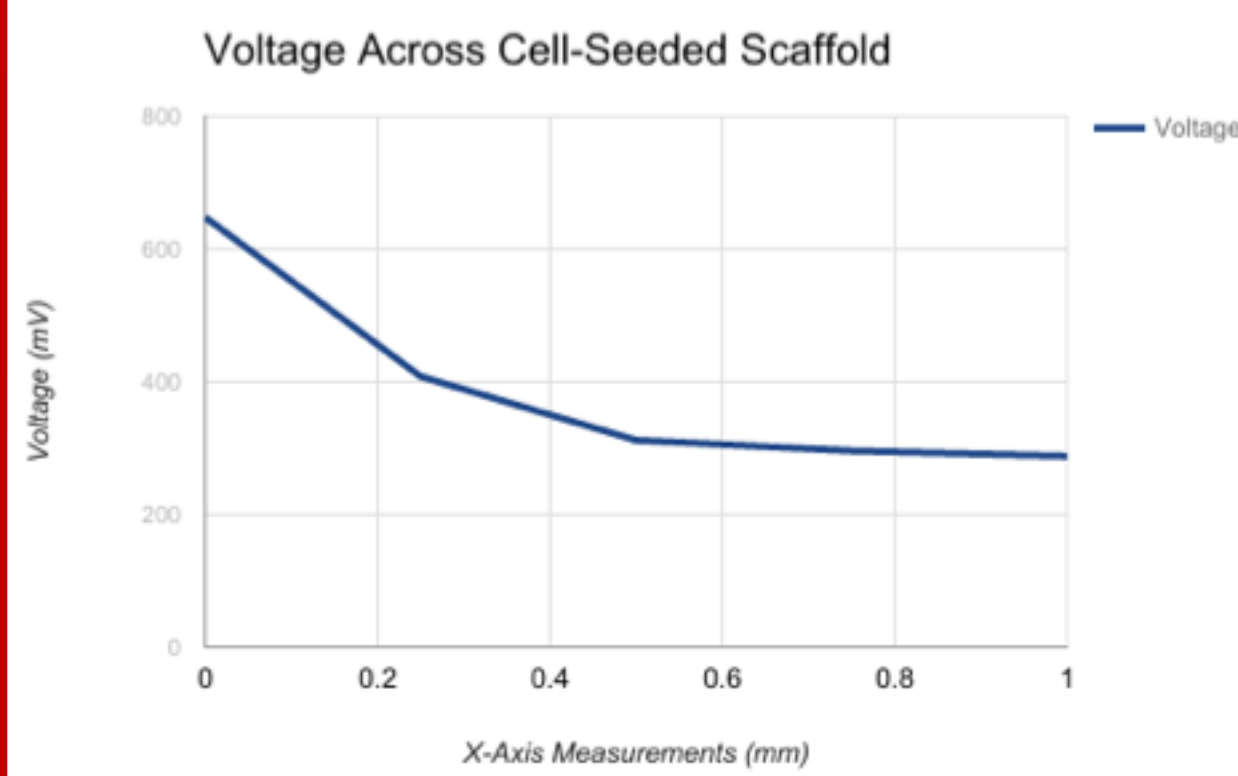
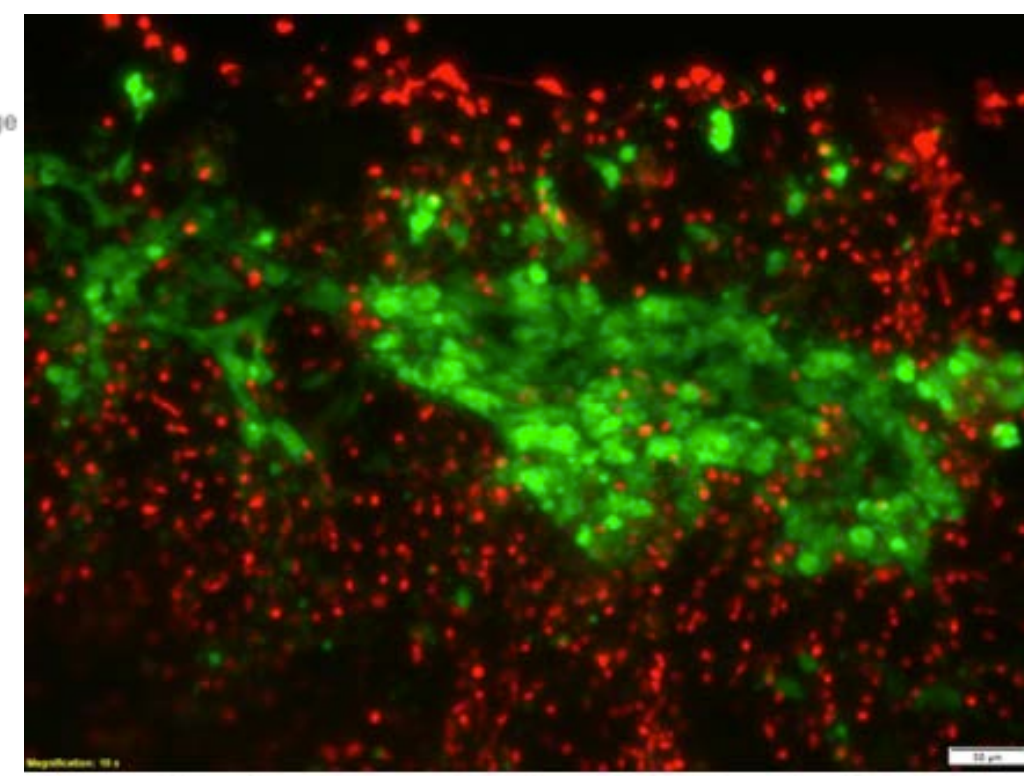

Figure 3. Results from Cell-Seeded Scaffold
Figure 4. Live/Dead Tests of Cell-Seeded Scaffold After Stimulation
- The results of testing a cardiomyocyte-seeded scaffold are demonstrated in Figure 3 and Figure 4